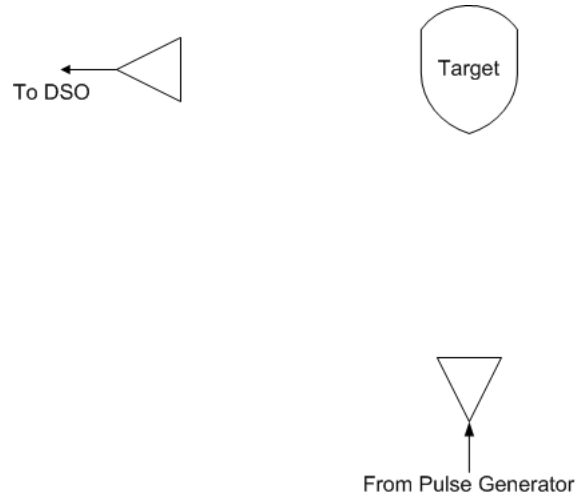

Figure 2: Antenna/Target Setup for Bistatic Case
1. Carefully disconnect the cable to the receive antenna and move the antenna approximately 10 feet away from the transmit antenna. Position the horns so that they are facing as shown in Fig. 2 then reconnect the receiver to the oscilloscope.
4. Move the target into the position described in Fig. 2. What effect does this have on the received pulse?